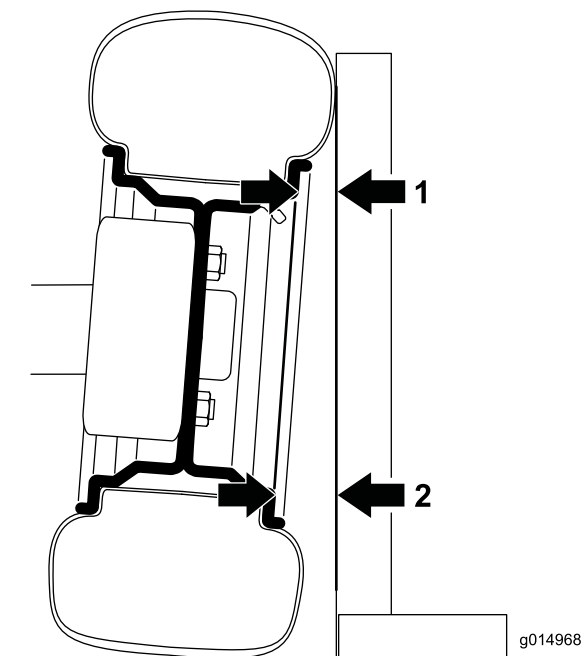

Figure 44
1. To check the camber, place a 90 degree square on the ground with the vertical edge touching the face of the tire (Figure 44).
2. Measure from the same part of the rim on the top and bottom of the tire to the square (Figure 44).